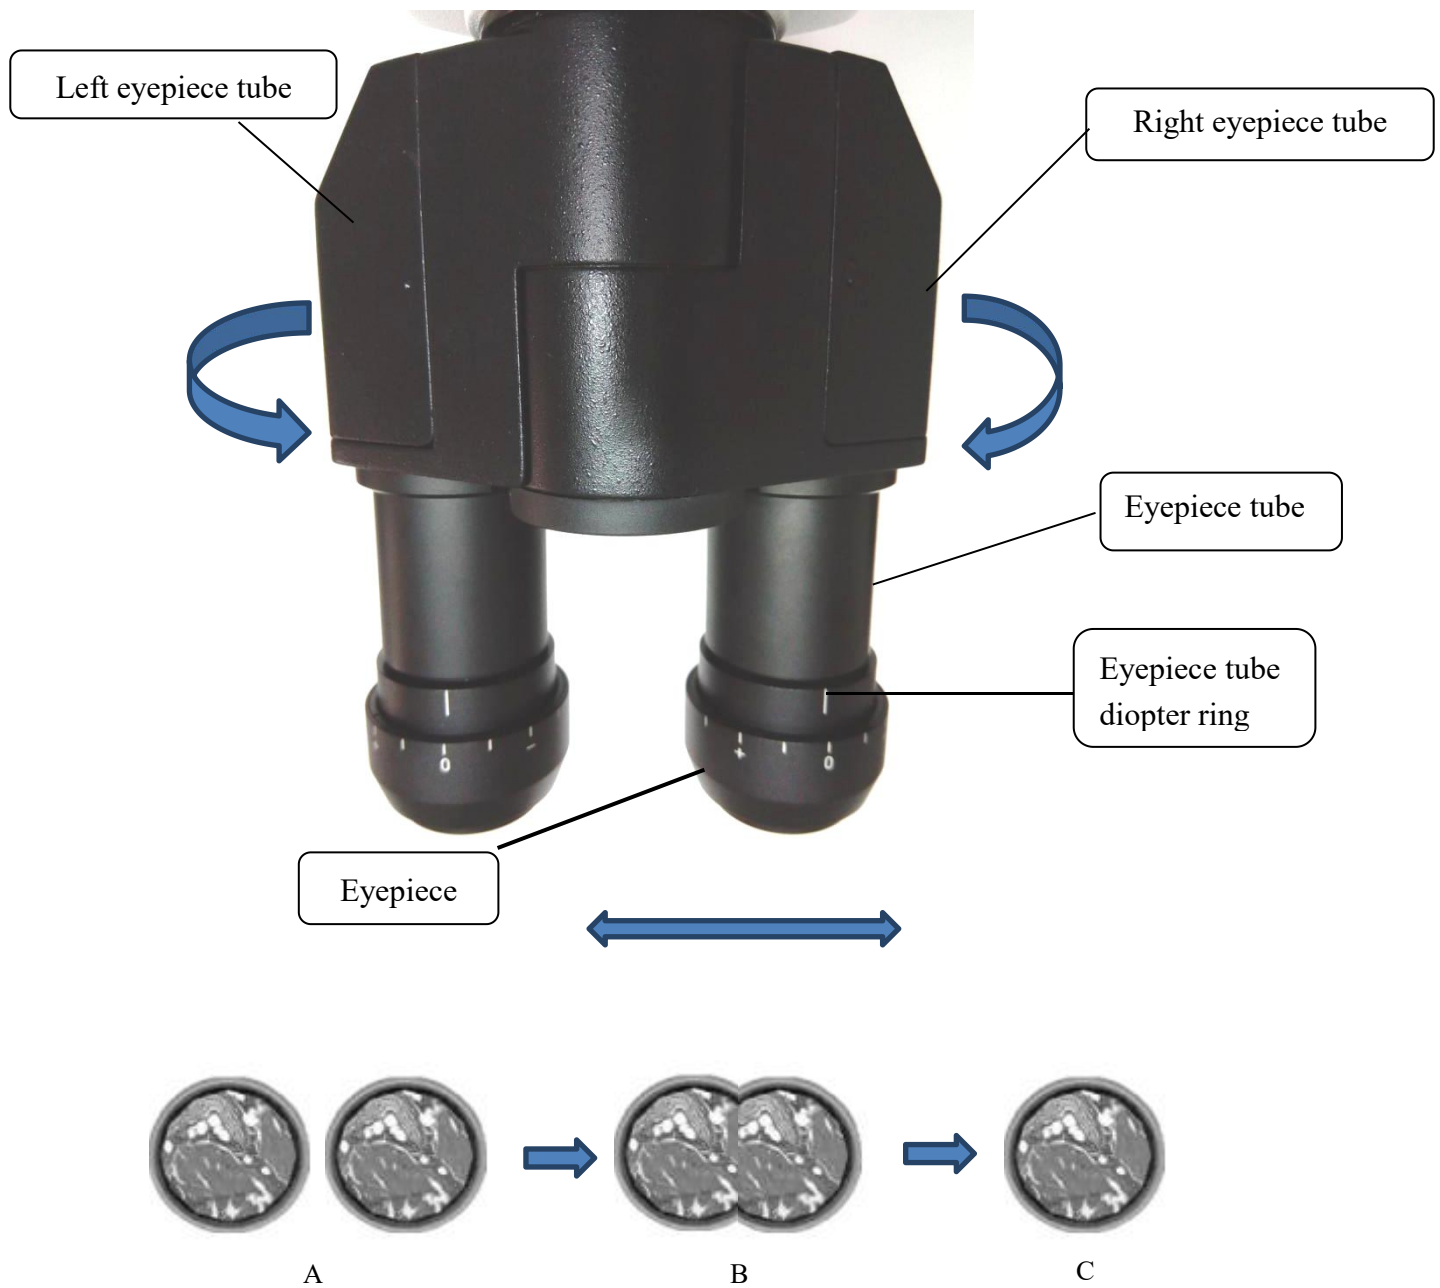

Figure 7
A) transfer the eyepiece on the left and right sides to the 0 pairs of lines according to (Fig. 7).
C) hold the binocular left mirror tube and the right mirror tube respectively, and rotate it according to (Fig. 7) until the specimen is seen by both eyes.
A) transfer the left eyepiece tube and right eyepiece tube to the 0 pairs of lines according to (Fig. 7); move the specimen to the light path.